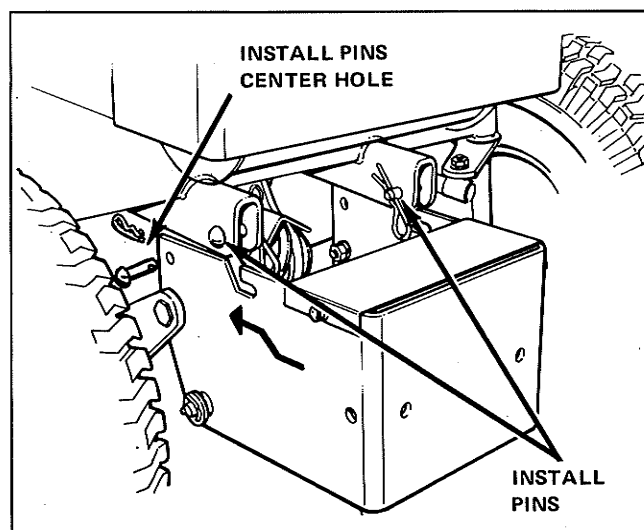

Figure 7. Attaching 42" Mower
5. Install two pins and spring clips through the front holes in the front axle mounting points (see figure 7).
6. Grasp the bottom of the mower hitch. Lift the front of the hitch and hook the mower hitch over the two pins just installed in the front axle mounting points (see figure 7).
7. Press down on the front of the mower hitch and rotate the rear of the hitch upward so that the holes in the hitch line up with the center holes in the front axle mounting points. Install two pins and spring clips through the center holes (see figure 7).